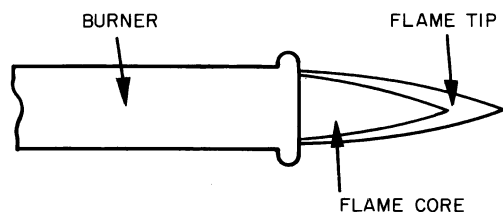

Fig. 180 — Proper Flame Appearance
1. The burner flame should be predominately blue in color, and well-defined and centered at the tube entry as shown in Fig. 180. Distorted flame or yellow tipping of natural gas flame, or a long yellow flame on propane, may be caused by lint and dirt accumulation inside burner or at burner ports, at air inlet between burner and manifold pipe, or debris in the main burner orifice. Soft brush or vacuum clean affected areas.
3. Check the appearance of the burner flame. See Fig. 180 on page 202.